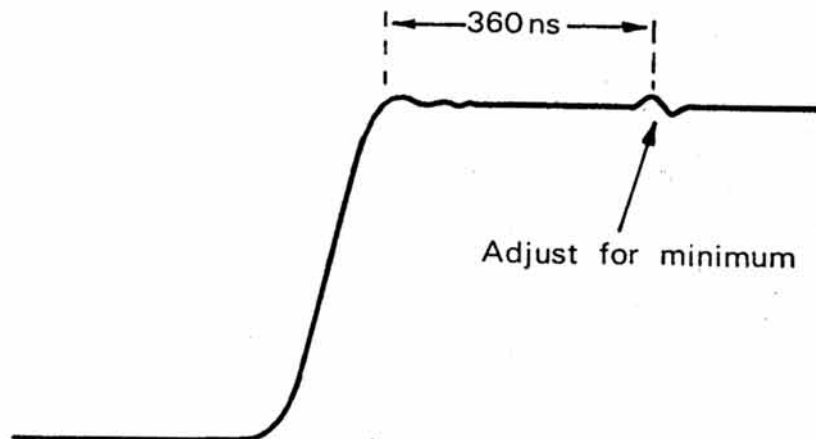

Fig. 7. Optimum Delay Line Matching
- (1) Set the mode and trigger source switches to CH1. Check that the channel 1 AC/DC/GND switch is set to AC.
- (2) Apply a square wave from the Fast Rise Time Pulse Generator (item 6) to channel 1 input via the pad and lead supplied with the generator and the attenuator (item 7).
- (3) Set the controls to display a single cycle four divisions high. Adjust 1C19 for optimum delay line matching i.e. smallest pulse in Fig. 7.